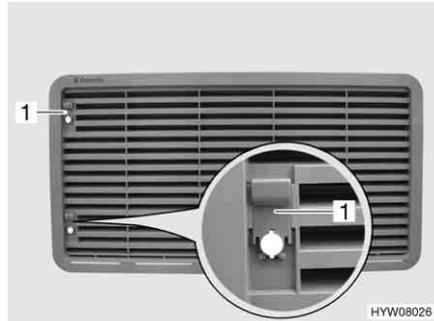
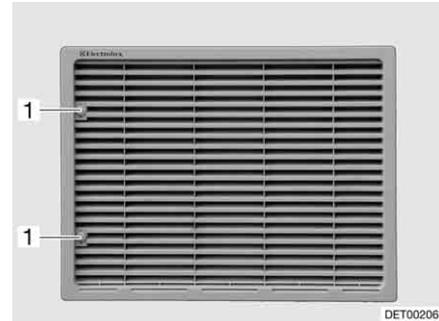

Fig. 206 Refrigerator ventilation grill (with sliding trap)
Fig. 207 Refrigerator ventilation grill (with screw)
- Depending on version: Push up the sliding trap (Fig. 206,1) or turn the screw (Fig. 207,1) a quarter turn using a coin.